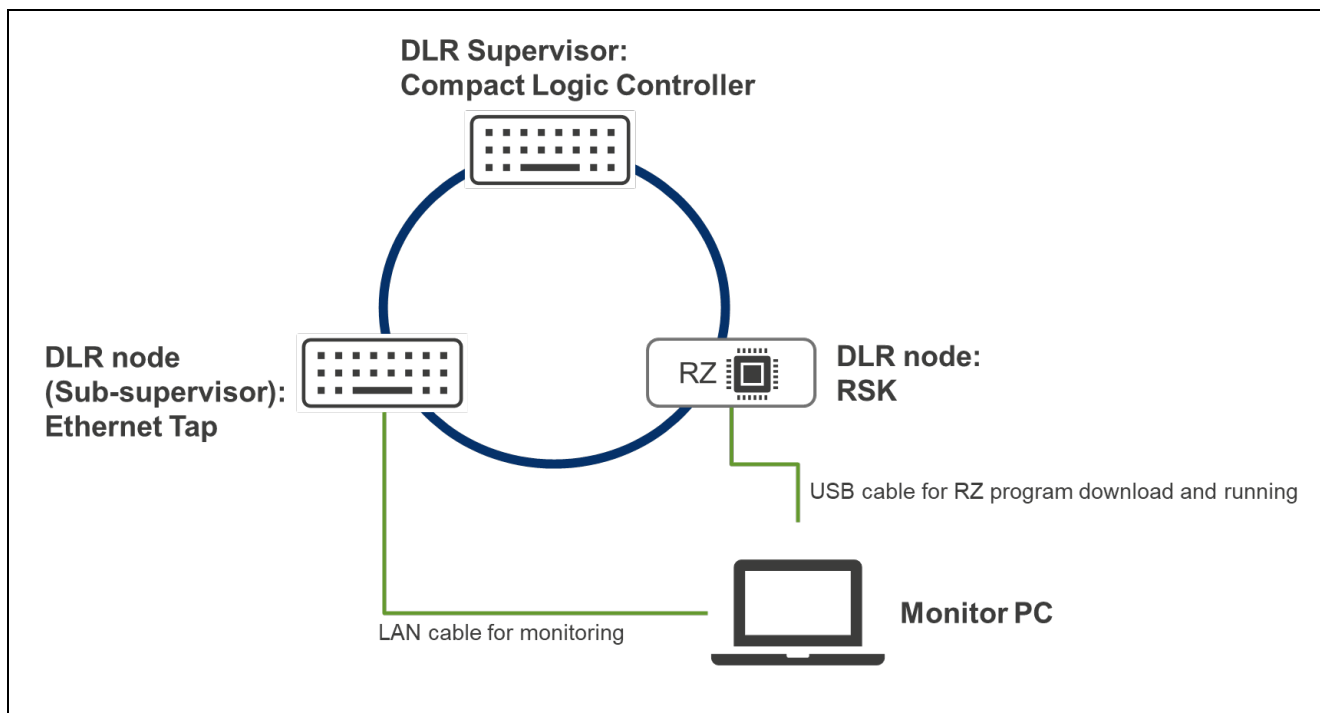

Figure 9-6 Topology for check
2. Establish the Figure 9-6 topology and power up.